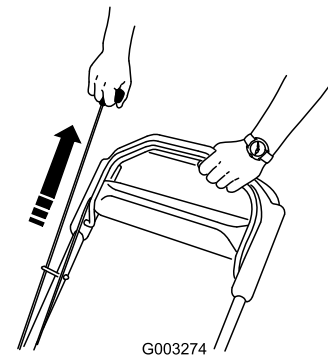

Figure 15
2. Pull the recoil start handle (Figure 15).